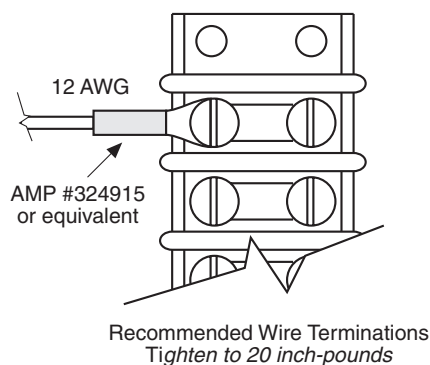

Figure 6-9 Wire Terminations for External Connections as Required for UL Listing
Serial Numbers 145 and above are listed to UL Standards for Safety by Underwriters Laboratories Inc. (UL). To fulfill the UL requirements, terminal block connections must be made as illustrated in Figure 6-9: the wire should be No. 12 AWG inserted in an AMP #324915 (or equivalent) connector, and both screws tightened to 20 inch-pounds torque.